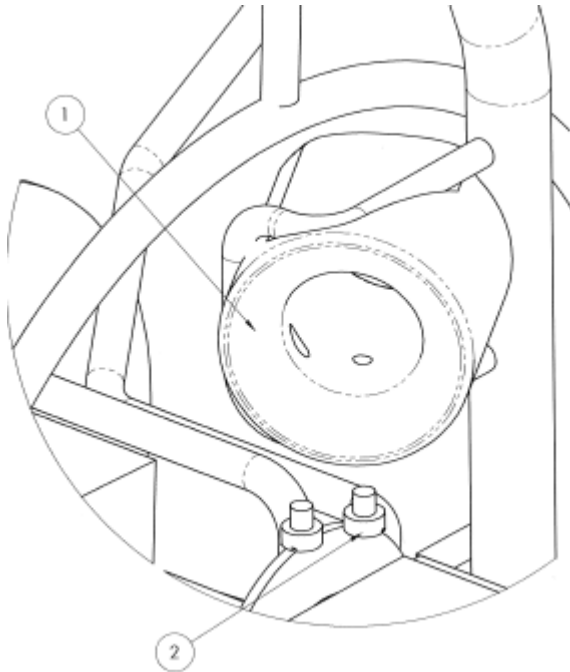

Figure 0.1 Rod guide assembly
**CAUTION:** The rod guide assembly (see below figure 0.1) must be reviewed regularly to determine whether a replacement is needed. If the rod wears through the guide it will begin to wear through the metal structure. Wear to the metal components of the system may cause potential hazards to the user (typically sharp edges or electrical malfunction). Spare rod guides can be purchased and fitted by competent mechanical technicians using a screwdriver. Spare rods and various components are available to purchase as repair kits.